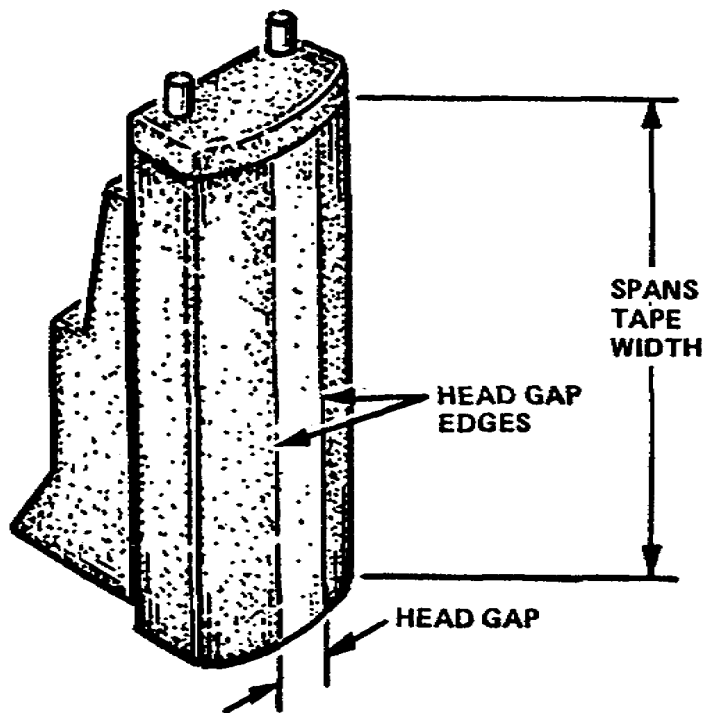

Figure 1-14. Video erase head
a. Video erase head. An electromagnetic head which usually spans the width of the tape and has a wide gap between pole pieces. The wide gap permits an extended time of influence for clean erasing of the tape (fig 1-14).